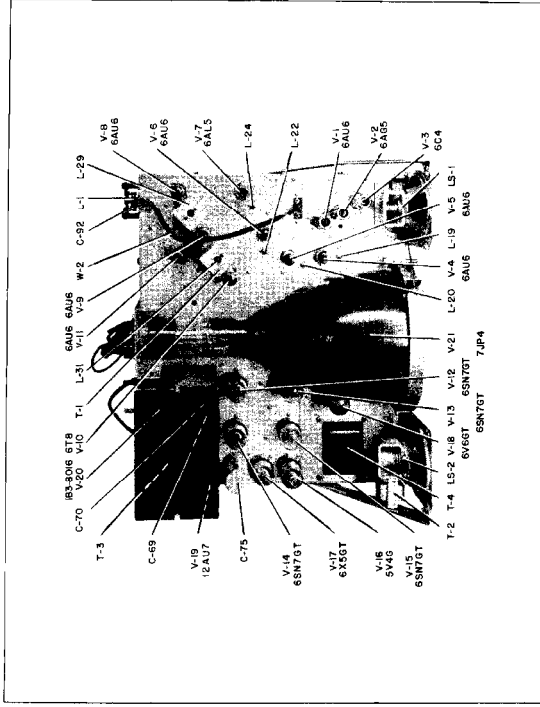

Figure No. 5. Top view of Receiver (cabinet removed)
- Step 4. Adjust L-19 and L-22 for maximum reading on the voltmeter. Retard the output of the generator, as necessary, to keep an on-scale reading on the voltmeter. See Figure No. 5 for location of L-19 and L-22.